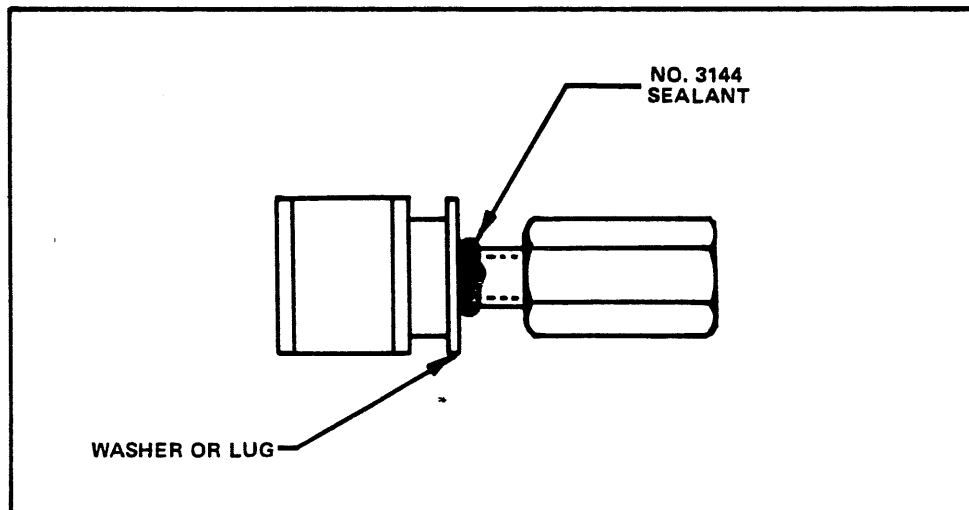
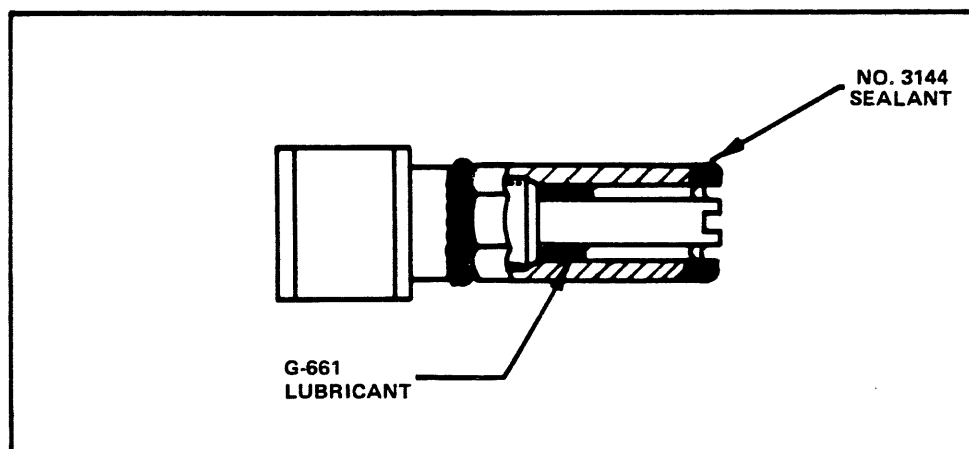

Figure 22. Application of sealant to the GAIN or the 0-dB SET control bushing.
Figure 23. Detail showing lubrication and sealing for the variable resistor.
STEP 22. Install the VAR control and either the GAIN (1502) or 0-dB SET (1503) control (see Figures 22 and 23).
- (1) 1502 TPN 311-0091-00, MPL Item 2-16 (VAR control); 1502 TPN 311-0160-00, MPL Item 2-33 (GAIN control).
- (2) 1503 TPN 311-0091-00, MPL Item 2-19 (VAR control); 1503 TPN 311-0160-00, MPL Item 2-35 (0-dB SET control).
- (1) Partially unscrew Hex spacer nut and form a bead of No. 3144 sealant around the bushing threads as shown in Figure 22.
- (2) Re-tighten the Hex spacer nut.
- (3) Pack the Shaft/Threaded Bushing interface with G-661 lubricant as shown in Figure 23.
- (4) Form a bead of No. 3144 sealant on the end of the Hex spacer nut as shown in Figure 23.
- (5) Install the resistor in the Front Panel.